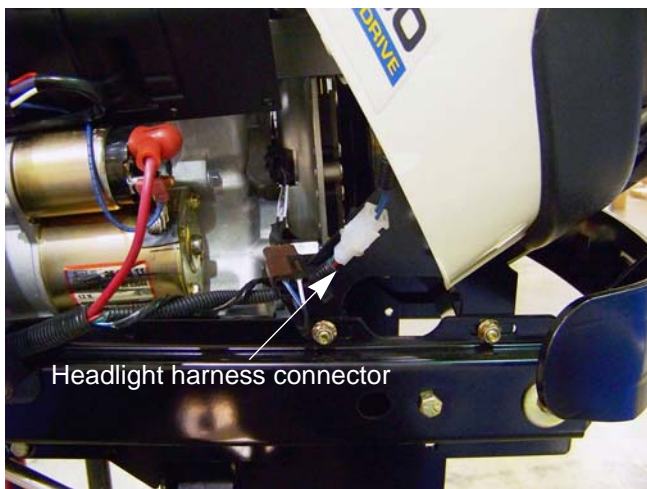

Figure 4.2
3. Disconnect the headlight harness. See Figure 4.2.